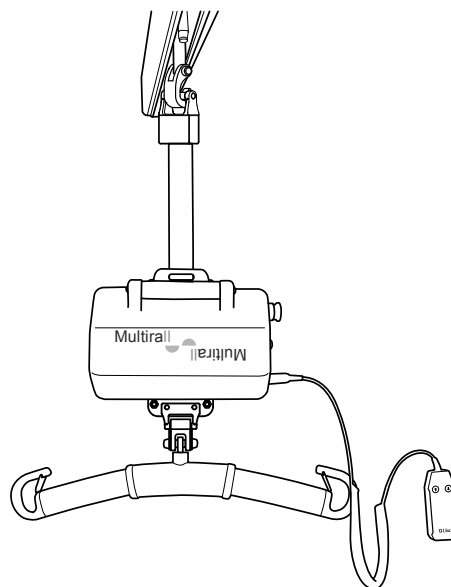

fig. 2
- mounted with the lift strap above the lift unit (fig. 2).